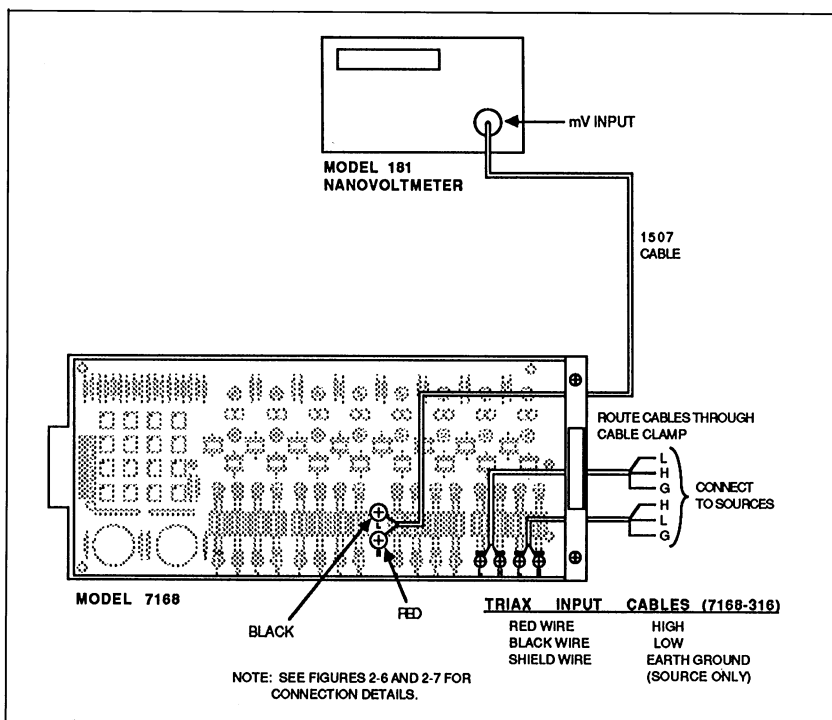

Figure 2-5. Typical Connections
Use the following general procedure to connect the card inputs and output. Figure 2-5 shows the card connected to a Model 181 Digital Nanovoltmeter and includes two input connections. Note that only copper wires and copper lugs should be used to minimize thermoelectric potentials.
- 7. Connect the opposite end of the Model 1507 cable to the mV input of the Model 181 Digital Nanovoltmeter, as shown in Figure 2-5.